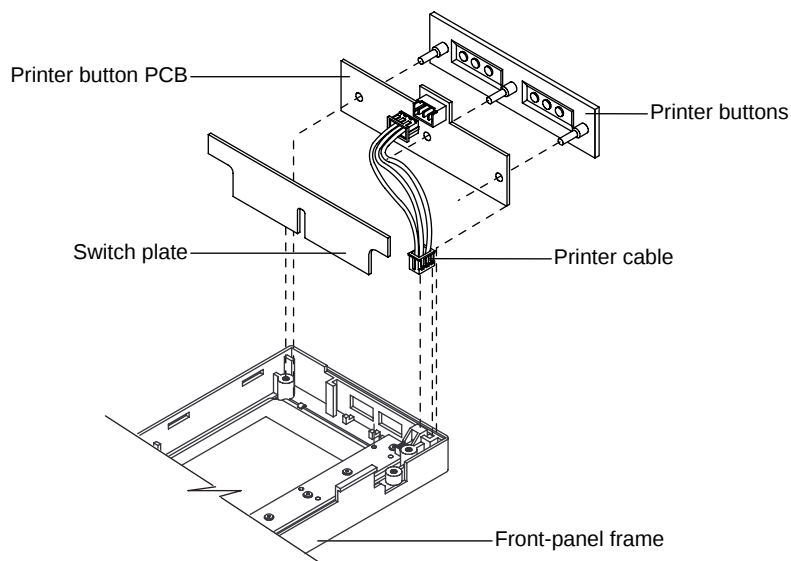
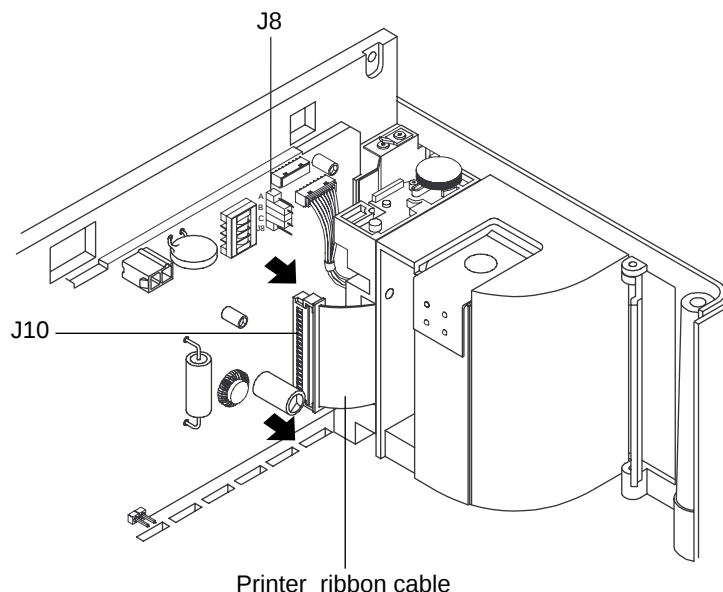

Figure 6-11: Removing Printer Button PCB
Figure 6-17: Removing Printer
1. Disconnect the printer cable from the main button PCB as illustrated in Figure 6-11.
3. Disconnect the printer ribbon cable from the UIF PCB (illustrated in Figure 6-17). Disconnect the printer cable from the printer button PCB (illustrated in Figure 6-11).
4. Turn the N-3200 back over and release the printer ribbon cable from the UIF PCB by grasping both ends of cable connector J10 on the UIF PCB and lifting away from the PCB, as illustrated in Figure 6-17.
7. Before installing the replacement printer, the jumper on J8 (Figure 6-17) must be on the proper connectors to match the model of your replacement printer. The printer model (A, B, or C) is designated on the label attached to the printer (Figure 6-19). If necessary, remove the jumper from J8 and reconnect it according to Table 6-1, and as illustrated in Figure 6-19.